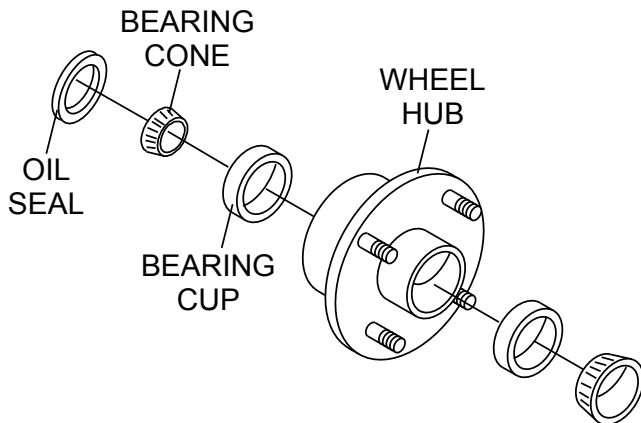

Figure 27. Wheel Hub and Bearings
1. After every 3 months of operation, remove the hub dust cap and inspect the wheel bearings (Figure 27). Once a year, or when required, disassemble the wheel hubs remove the old grease and repack the bearings forcing grease between rollers, cone and cage with a good grade of high speed wheel bearing grease (never use grease heavier than 265 A.S.T.M. penetration (“No. 2.”).
2. Fill the wheel hub (Figure 27) with grease to the inside diameter of the outer races and also fill the hub grease cap. Reassemble the hub and mount the wheel. Then tighten the adjusting nut, at the same time turn the wheel in both directions, until there is a slight bind to be sure all the bearing surfaces are in contact.